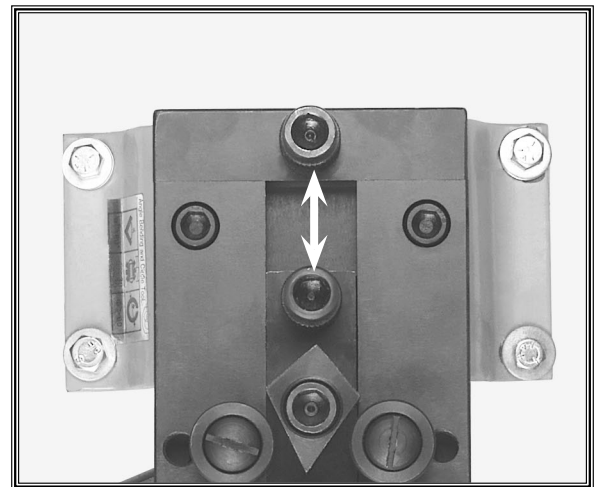

Figure 17. Riveter open and ready for the workpiece.
3. Move the hand lever to open the area between the press rollers (**Figure 17**).